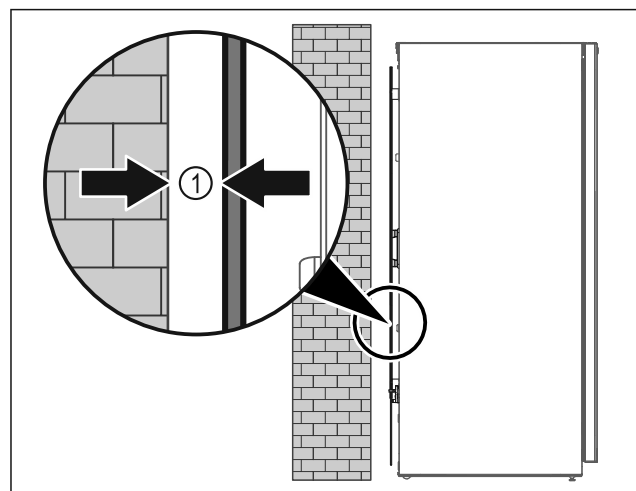

Fig. 8
- ▶ Set up the appliance either free-standing or directly against a wall at a minimum distance of 5 mm Fig. 8 (1).